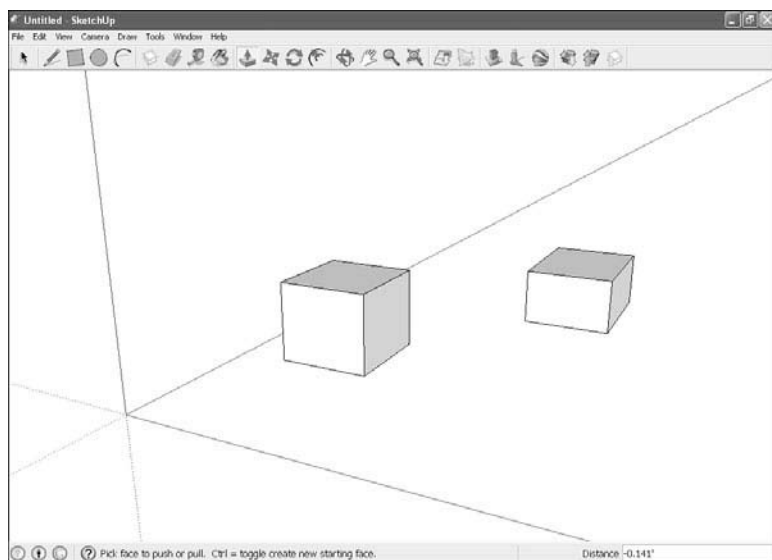

FIGURE 5.7 Two cubes.
Suppose you wanted to draw two cubes to the same height, similar to what you can see in Figure 5.7, but are not satisfied with your first effort.
When drawing 3D objects, you can infer the length on one object to another object, making the first object’s length match the second object. Here’s how it works in the example of the two cubes in Figure 5.7:
4. Pull the rectangles into cubes of different heights, as shown in Figure 5.7.